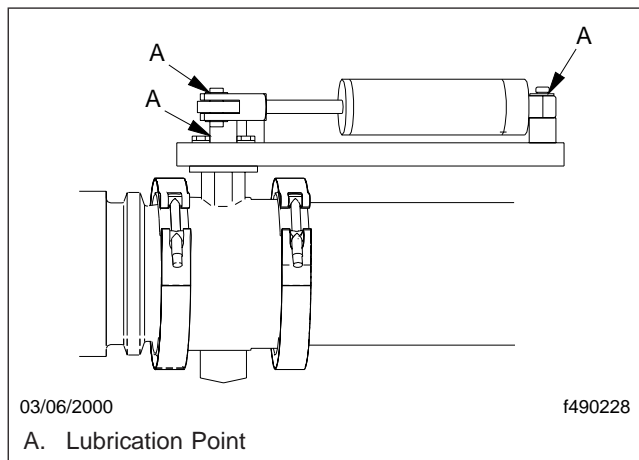

Fig. 7.20, Pacbrake Exhaust Brake and Air Cylinder
1. With the engine shut down, use any oil-free or nonpetroleum-based high-heat lubricant, and spray or coat a sufficient amount on the restrictor valve shaft and the attaching locations at each end of the actuation cylinder. See Fig. 7.20.